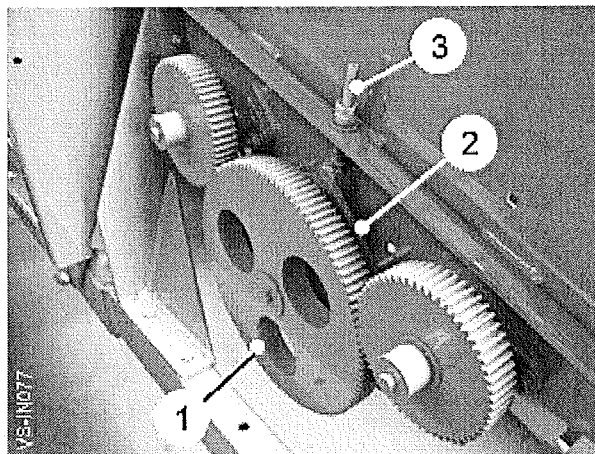

Fig 9
The meshing of the agitator motor drive gears (item 1, fig 9) can be set by loosening the motor plate (item 2, fig 9) and using the adjuster (item 3, fig 9) to raise or lower the motor plate. A small amount of backlash should be allowed between the gears.